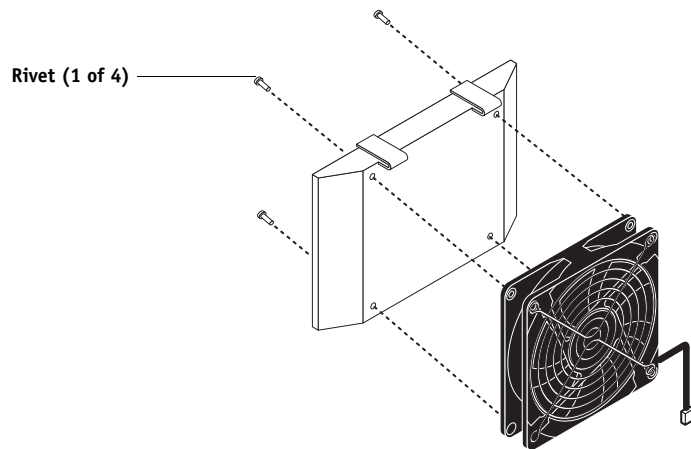

FIGURE 38: Removing/replacing the front fan from the bracket
4. If you are replacing the old fan with a new fan, remove the four plastic rivets that attach the old fan to the mounting bracket, and remove the fan from the bracket (see Figure 38).
2. Replace the four plastic rivets that secure the fan to the mounting bracket (see Figure 38 on page 111).